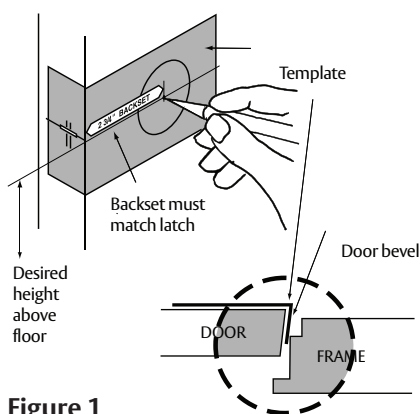

Figure 1
1. Use template A8290 to mark the door (Figure 1).